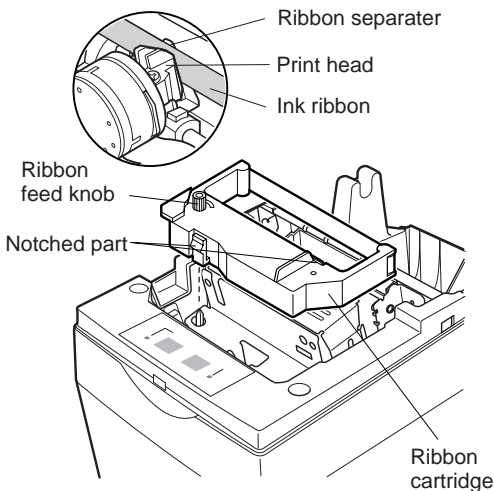

Fig. 6-2 Loading the ribbon cartridge
- ① Turn off power to the printer.
- ② Lift the cover up approx. 3 cm. Hold the cover tilted at this angle, then pull it toward you to remove it.
- ③ Place the ribbon cartridge in the direction shown in Fig. 6-2 and press it down to load it. If loading of the ribbon cartridge is not satisfactory, press down the cartridge while rotating the ribbon feed knob in the direction of the arrow.
- ④ Turn the ribbon feed knob of the ribbon cartridge in the direction of the arrow to remove slack in the ribbon.
- ⑤ Mount the cover by reversing the procedure outlined in step ② above.